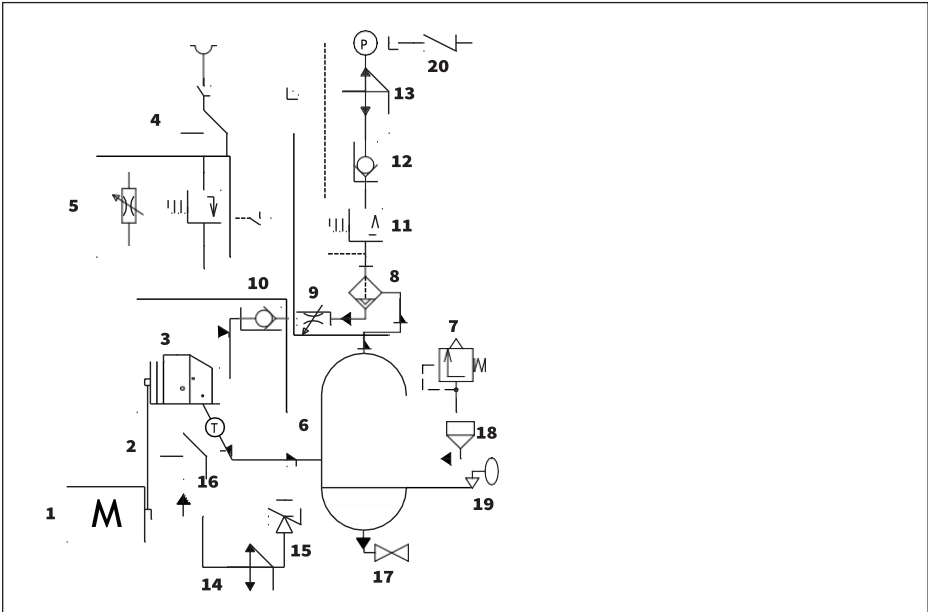
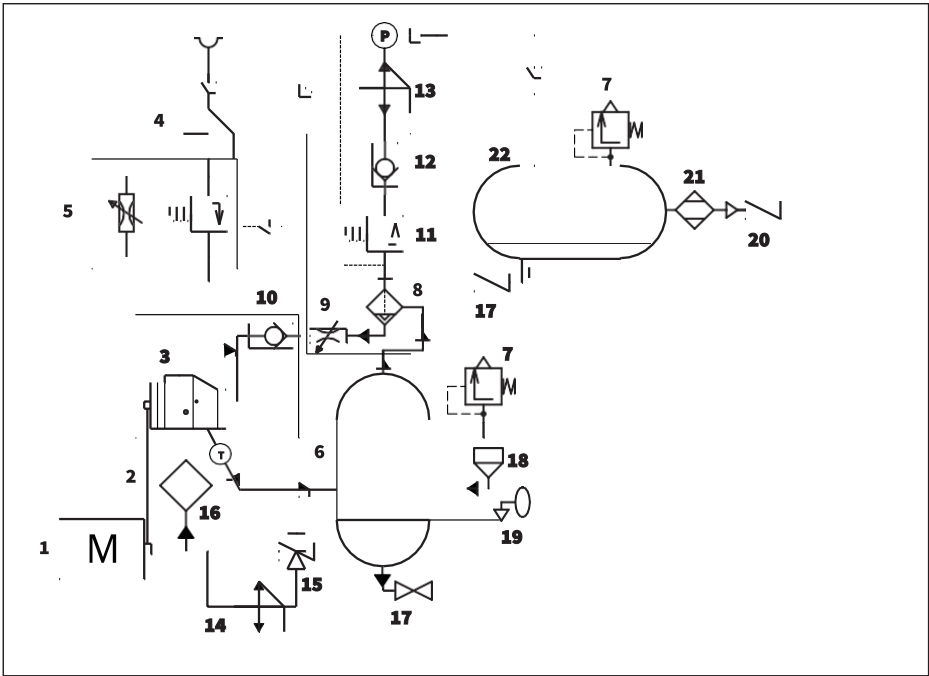

Fig. 2.3.1 Function diagram A07..-A22..
Fig. 2.3.2 Function diagram AR07...AR22..., ARD07...ARD22..
2.4 Functional description (see Fig. 2.3.1 and Fig. 2.3.2)